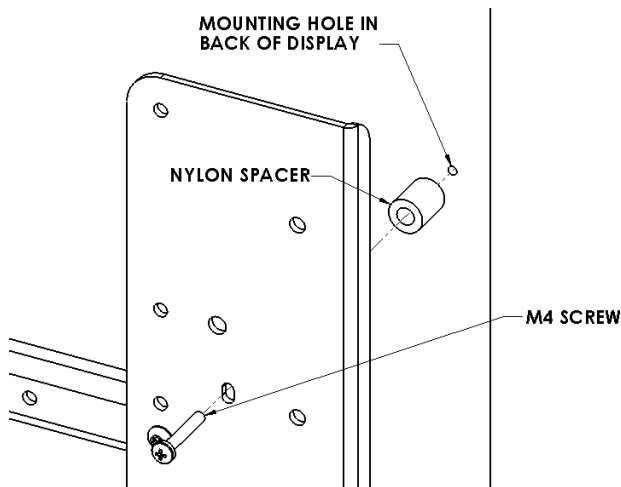
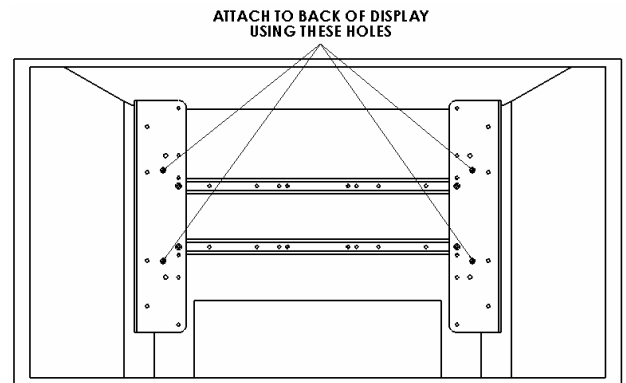

Figure 10
Figure 11
2. Place Nylon spacers on mounting holes, aligning hole pattern on *side* brackets with pattern on back of display (see Figure 10 & Figure 11).